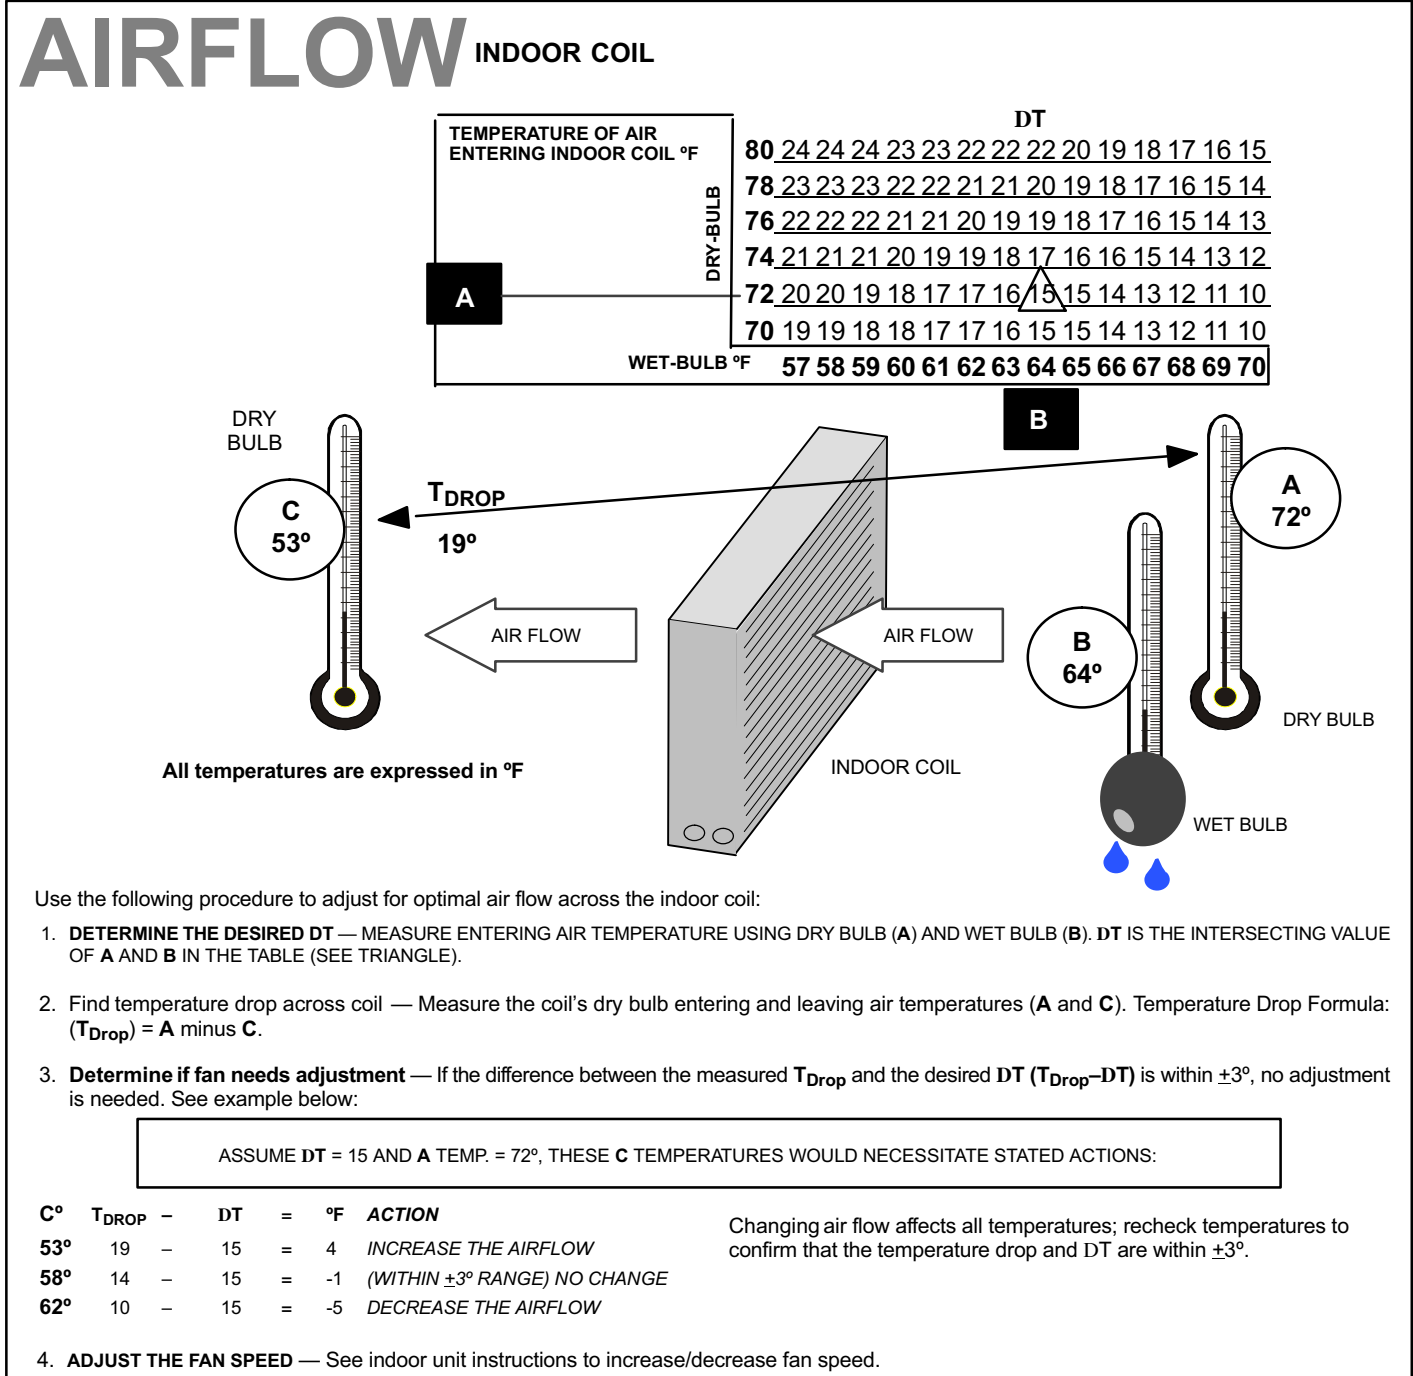

Figure 20. Checking Indoor Airflow over Evaporator Coil using Delta-T Chart Formula
2. Checking and adjusting indoor airflow as described in figure 20.
Check airflow using the Delta-T (DT) process using the illustration in figure 20.
1. Check the airflow as illustrated in figure 20 to be sure the indoor airflow is as required. (Make any air flow adjustments before continuing with the following procedure.)